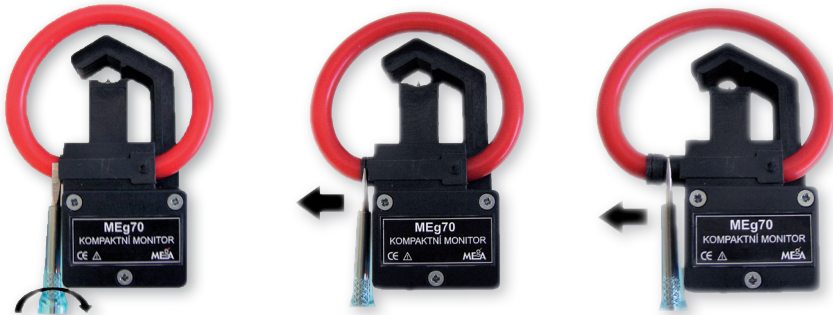

Fig. 3: Opening the flexible sensor latch
1. To open the flexible current sensor, loosen its latch on the monitor. The flexible sensor latch can be opened using a flat screwdriver. The procedure is shown in Fig. 3. Put the side edge of the screwdriver under the latch and turn the screwdriver in direction of the arrow to wedge it in the groove on the sensor closure and take out slightly the sensor closure. Then take out the closure, until you hit against the other groove on the sensor. Wedge the screwdriver edge in the second groove and take out the flexible sensor from the latch in direction of the arrow.